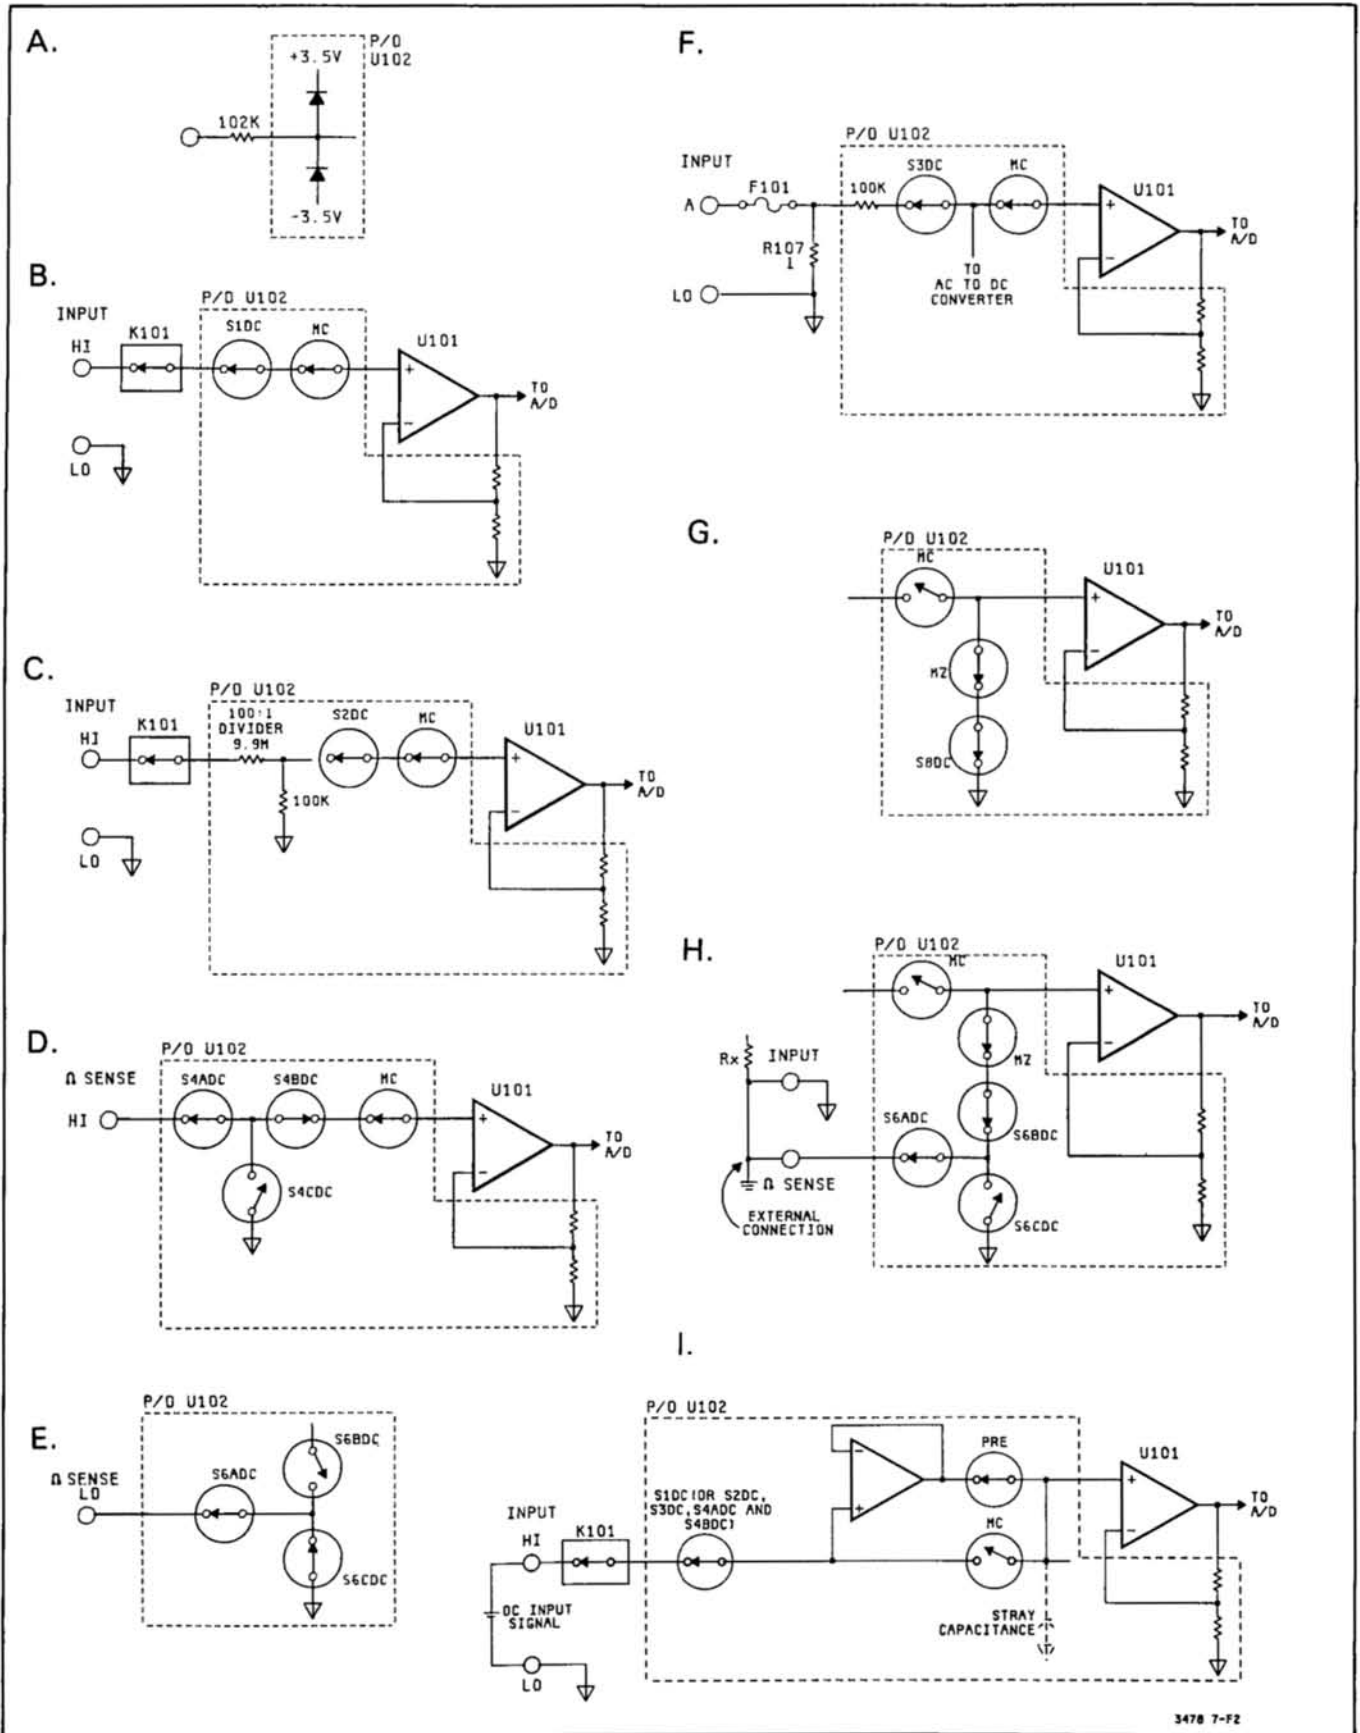

Figure 7-F-2. Simplified Schematic Of The Input Switching Circuitry
b. **Low Voltage Protection.** This circuit consists of diodes connected to the individual input nodes (part of the HI INPUT, LO INPUT, A INPUT Paths, etc.). The diodes on each node are connected (internally in U102) to +3.5V and -3.5V power supplies. If the voltage on a node exceeds either +4.2V or -4.2V, a diode conducts and keeps the level on the node to the  $\pm 4.2V$  levels. The difference between the high voltage at the input terminals and the voltage at the input nodes is dropped across the resistors which are in series with the diodes and input terminals (the low pass filter). Figure 7-F-2A shows a typical protection circuit.
7-F-13. **Input Switching.** The Input Switching Circuitry consists mostly of Relay and MOSFET switches, with most FET switches located in U102. The purposes of the switches are to provide five signal paths to the Input Amplifier and to connect the amplifier for a zero measurement (done in the Autozero Function; see paragraph 7-F-14). The switches are controlled by circuits in U102 which receive their control information from the A/D Controller. The following explains the various input paths. Refer to Figure 7-F-2 and Schematic 1 for the explanation.
a. **Low Voltage Range Input Path (Figure 7-F-2B).** The path consists of K101, R103, R104, R110, and S1DC (S1DC is in U102). The purpose of the path is to connect the HI INPUT Terminal (high input voltage) to the DC/Ohms Input Amplifier. The path is used only in the 30mV through 3V dc volts Ranges and all Ohms Ranges.
b. **High Voltage Range Input Path (Figure 7-F-2C).** The path consists of R110, K102, S2DC (in 102), and a 100:1 divider (9.9M ohm and 100K ohm resistors, RD99 and RD98, in U102). The purpose of the path is to attenuate input voltages by a factor of 100 and to connect the attenuated voltage to the DC/Ohms Input Amplifier. The path is used only in the 30V and 300V dc volts Ranges.
c. **Ohms High Sense Path (Figure 7-F-2D).** This path consists of R105, R106, and S4ADC and S4BDC (S4ADC and S4BDC are in U102). The path connects the HI OHMS SENSE Terminal (high ohms input) to the DC/Ohms Input Amplifier, only when the 3478A is in the 4-Wire Ohms Function. Switch S4CDC (which is also part of the path) is used to connect the junction of S4ADC and S4BDC to ground. Switch S4CDC is closed in all functions except the 4-Wire Ohms Function and shunts any possible voltage on the S4ADC and S4BDC junction to ground.
d. **Ohms Low Sense Path (Figure 7-F-2E).** This path consists of R101, R102, and S6ADC and S6CDC (S6ADC and S6CDC are in U102). The path is used to connect the LO OHMS SENSE Input Terminal (low ohms input) to ground (LO INPUT Terminal), when the 3478A is in the 4-Wire Ohms Function. In the 2-Wire Ohms Function, the low ohms input is the LO INPUT Terminal (which is connected to ground).
e. **Current Input Path (Figure 7-F-2F).** This path includes R107 and S3DC (in U102). The voltage drop across R107 (which is generated by the current being measured) is connected through S3DC to the DC/Ohms Input Amplifier. This path is used only in the DC Current Function.
a. **Autozero (in the DC Volts, DC Current, and 2-Wire Ohms Functions).** In the DC Volts, DC Current, and 2-Wire Ohms Functions, the zero measurement is made with switch MC (measure customer) open, and switch MZ (measure zero) and S8DC closed (see Figure 7-F-2G). Switch S8DC and MZ connects the DC/Ohms Input Amplifier to ground through a 102K ohm resistor. After the zero measurement is made, switch S8DC and MZ opens, and switch MC closes for the input measurement. (Note: MOSFET switches MC, MZ, and S8DC are in U102.)